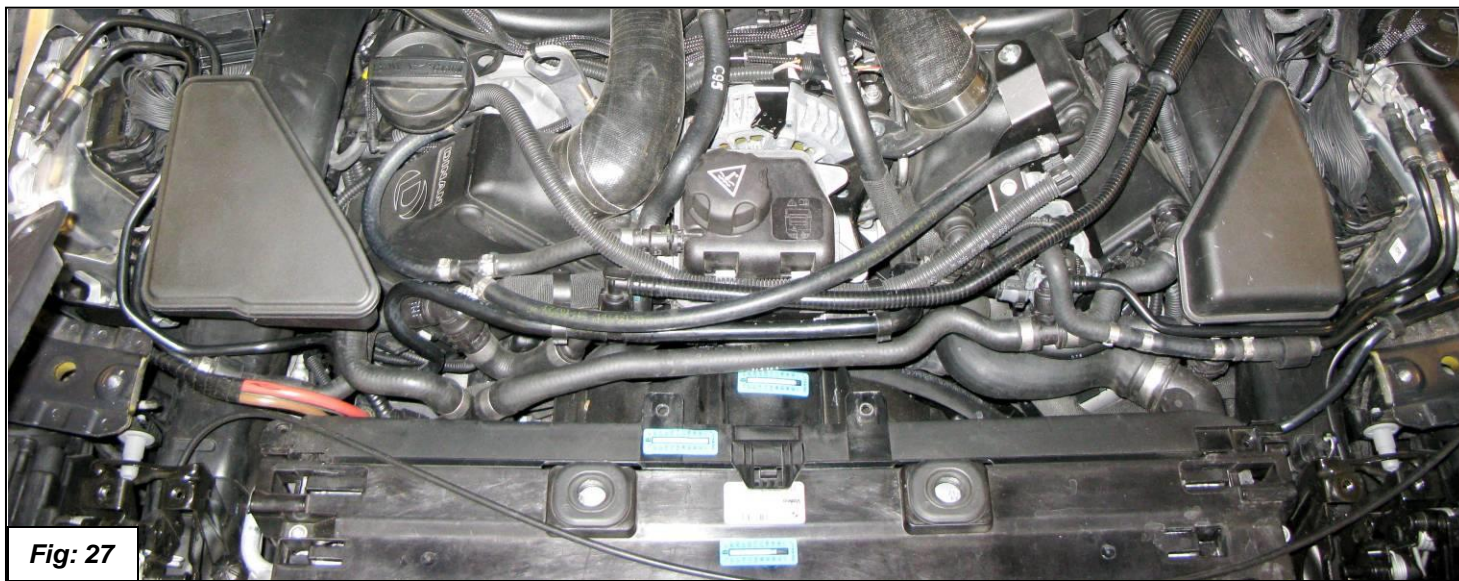

Fig: 27
18. Install the coolant hoses using the supplied new hoses where shown along with the stock hoses. See figures 27, 28, 29 and 30.